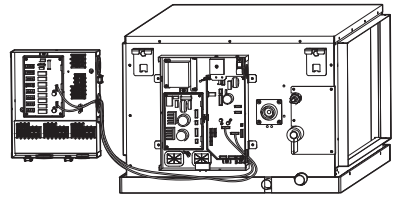

Figure 2
- Use the DC line hole when connecting the cable to indoor PCB.(Figure 2).
- Tie the cables with the tie-wraps and clamps. (Figure 2).
- Fix PI485 to the bracket in the outdoor control box.(Figure 2)
<Figure 2>
- Connect the lead wires between main PCB and damper controller.(Figure 2)